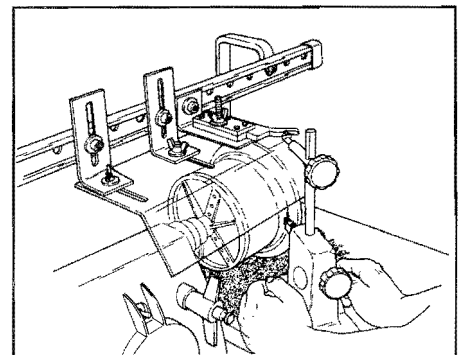

Figure 16. Rough shape the outside profile first.
**7. Rough shape the outside profile first.** (See Figure 16.) Turn the outside profile first. Cut your beads and coves "uphill" in the same manner as you would for spindle turning.